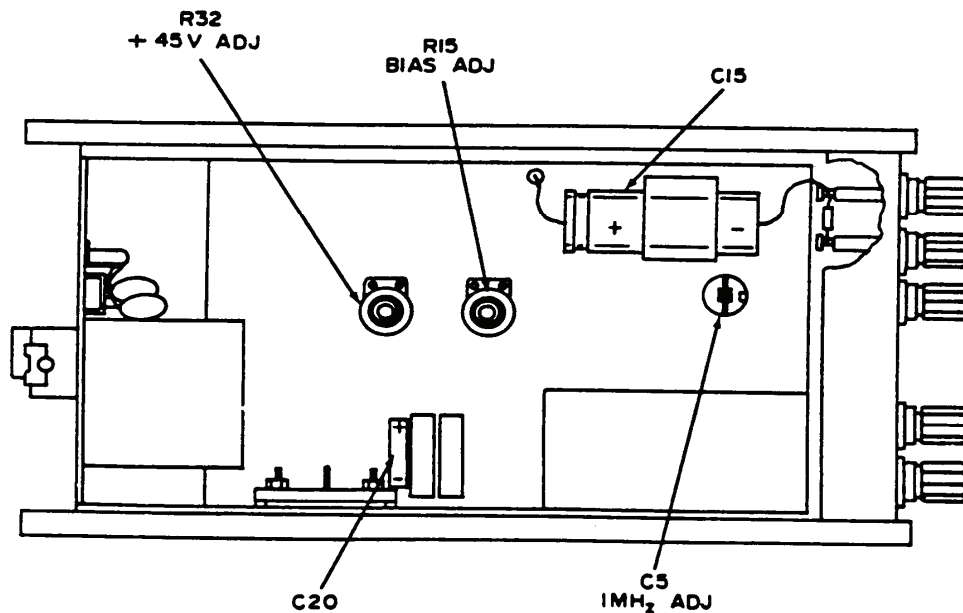

Figure 5. Hewlett-Packard Model 465A - top view.
(1) Set function/arbitrary generator frequency for 1 MHz and output for 1 V (verify with true rms voltmeter).
(2) Adjust C5 1MHz_Z ADJ(fig. 5) until true rms voltmeter indicates 8.5 V (R).
- (1) Connect multimeter between positive side of C20 (fig. 5) and chassis ground. If multimeter does not indicate between 44 and 46 V, perform **b** (1) below.
- (2) Move positive lead to positive side of C15 (fig. 5). If multimeter does not indicate between 22.5 and 23.5 V dc, perform **b** (2) below.
- (1) Adjust R32 +45 V ADJ (fig. 5) until multimeter indicates 45 V dc (R).
- (2) Adjust R15 BIAS ADJ (fig. 5) until multimeter indicates 23 V dc (R).